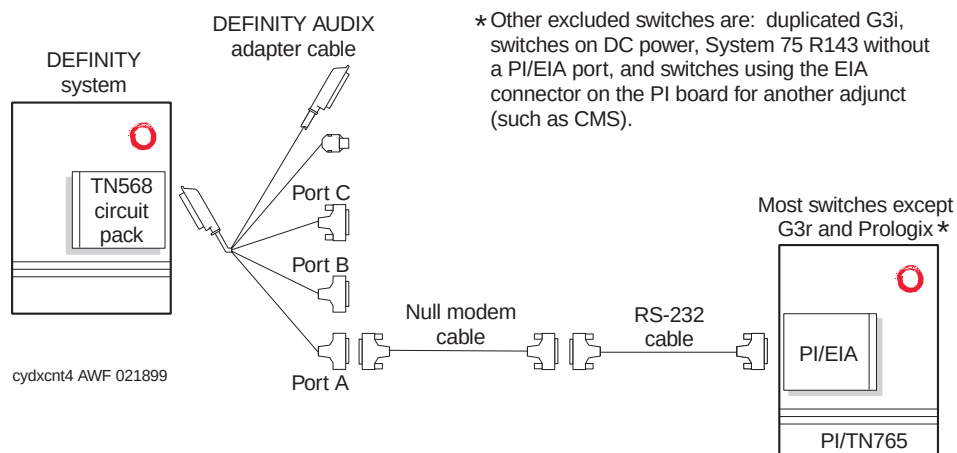

Figure 2-11. Direct connection to the PI
1. Connect the equipment as shown in Figure 2-11.